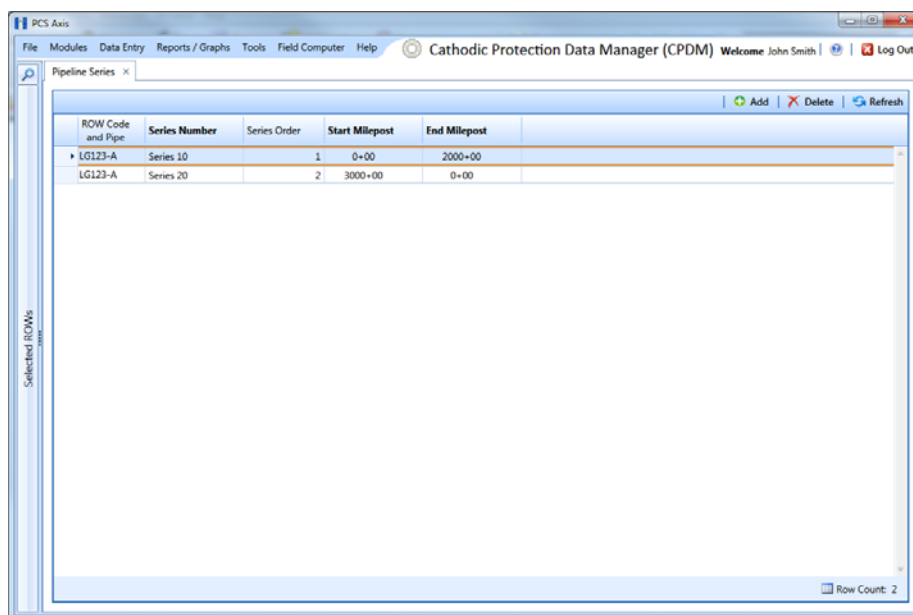

Figure 2-41. Pipeline Series
- 7 Set the *Pipeline Series* start and end milepost numbers. Type the starting milepost in the **Start Milepost** field and the ending milepost in the **End Milepost** field (Figure 2-41).